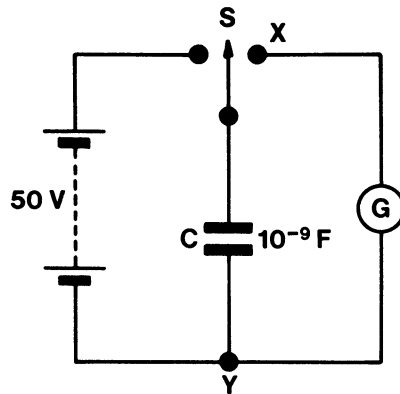

FIG. 3.60
- (c) Suppose that a galvanometer of resistance  $25\ \Omega$ , protected in this way, is used in a circuit as shown in Fig. 3.60. S is a reed switch which operates to charge the capacitor C, of capacitance  $10^{-9}\ \text{F}$ , to 50 V and discharge it through the galvanometer 100 times in each second.